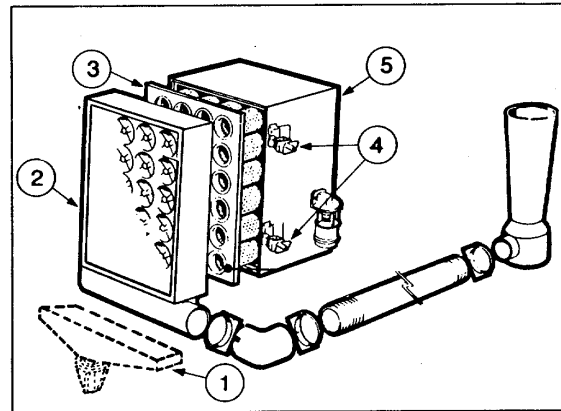

Fig 2-13. (N21026). Air cleaner - cartridge type (two stage)
1. Loosen the wing nuts (4, Fig. 2-13 or 2-14) on the air cleaner housing (5) to remove the pre-cleaner
2. To install a new cartridge, hold the cartridge (3, Fig. 2-13 and 2-14) in the same manner as when removing it from the housing. Insert the clean cartridge into the housing; avoid hitting the cartridge tubes against the sealing flange on the edges of the air cleaner housing.
4. Replace the pre-cleaner panel (2) and tighten the wing nuts (4) by hand, for final tightness turn 1-1/2 to 2 turns with a small adjustable wrench. Do not overtighten. On a pre-cleaner with an exhaust aspirator, assemble the aspirator tube to the pre-cleaner panel and tighten the "U" bolt.